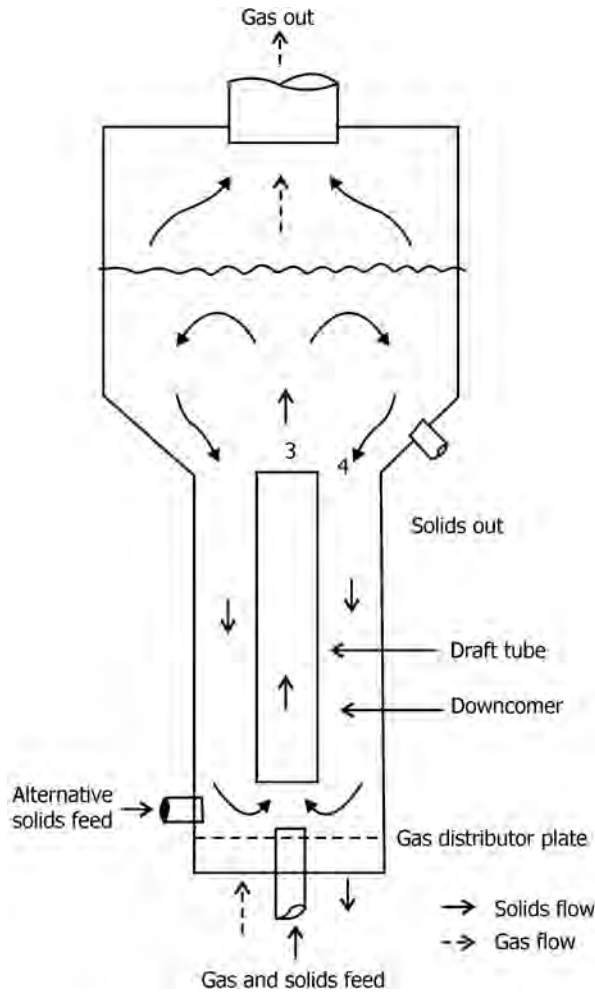

FIGURE 7.10 Recirculating fluidized bed concept. The draft tube operates as a dilute phase pneumatic transport tube.
- The recirculating fluidized bed with a draft tube concept is briefly illustrated in Figure 7.10.